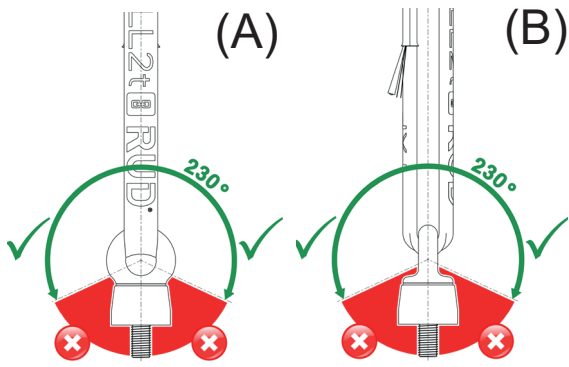

Fig. 8: Admissible pivoting area 230° (green):
- The TXP round sling may be rotated 230° in the load ring plane and transverse to the load ring plane (*Fig. 8*).